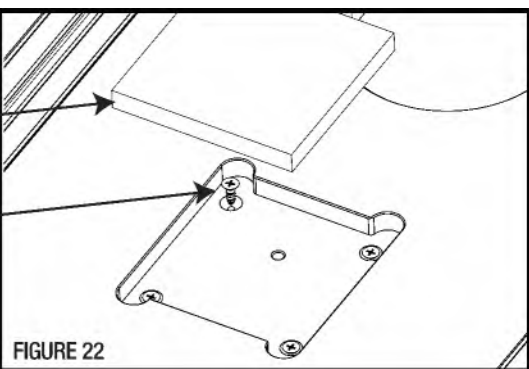

FIGURE 22
1. Install D-8 (4) Phillips Flathead Wood Screw as leveling screws in the table cut-out. Adjust them just about the surface of the machined area. **Figure 22.**